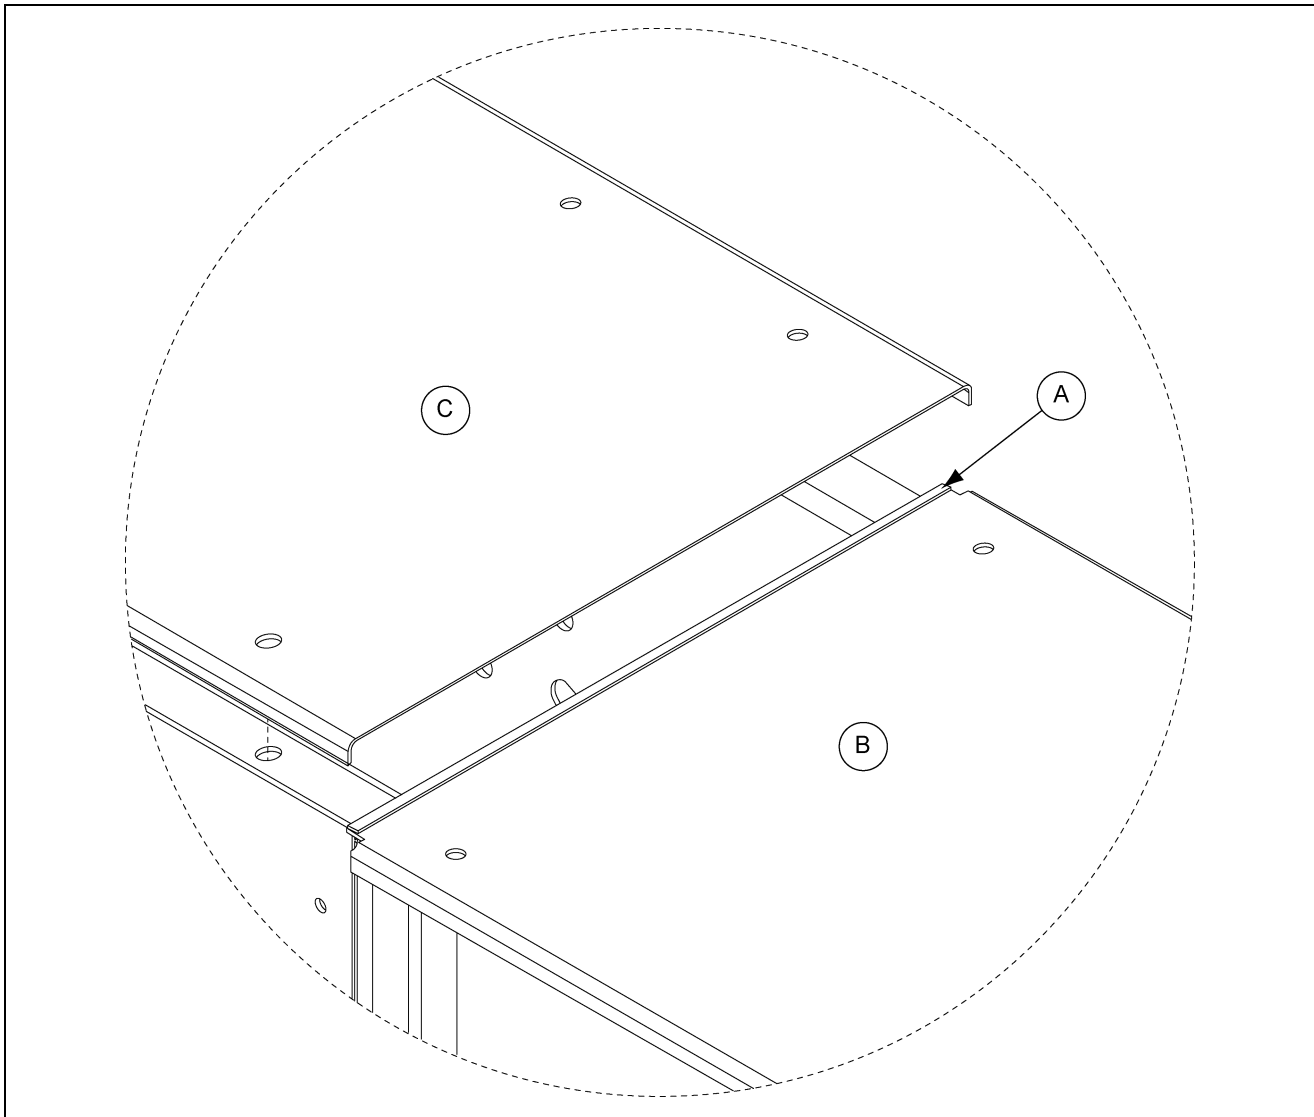

Figure 4F Foam Strip Placement
Before installing the covers, an adhesive back foam strip may be applied to provide a seal against the elements. Starting at the tail assembly, place the tail section cover on top of the tail section assembly. Apply the adhesive back foam strip (A) to the top surface of the protruding lip before installing the next cover. (See Figure 4F.) This recommended installation sequence helps ensure that water will shed away from cover seam connections.